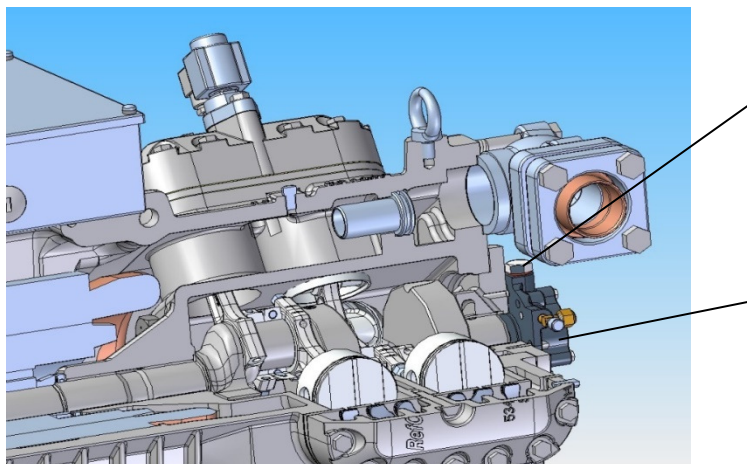

Fig. 14 Detail of gear pump and safety valve of PP1-L/H4xx PP1-L/H6xx PP1-L/H8xx
The gear pump has also a safety valve (ref. 23 in Fig. 14), which allows the oil by-pass to the carter when the delivery pressure exceeds the set value (open at 4,1 bar; rearmament 2,8 bar).